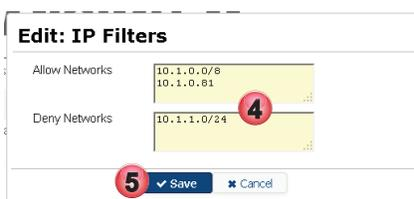

Figure 5-17: Enter Deny or Allow Addresses
4. In the window that opens, enter the IPv4 addresses or networks in CIDR notation that will be allowed or denied access to this machine GUI in the corresponding dialog box, Figure 5-17.